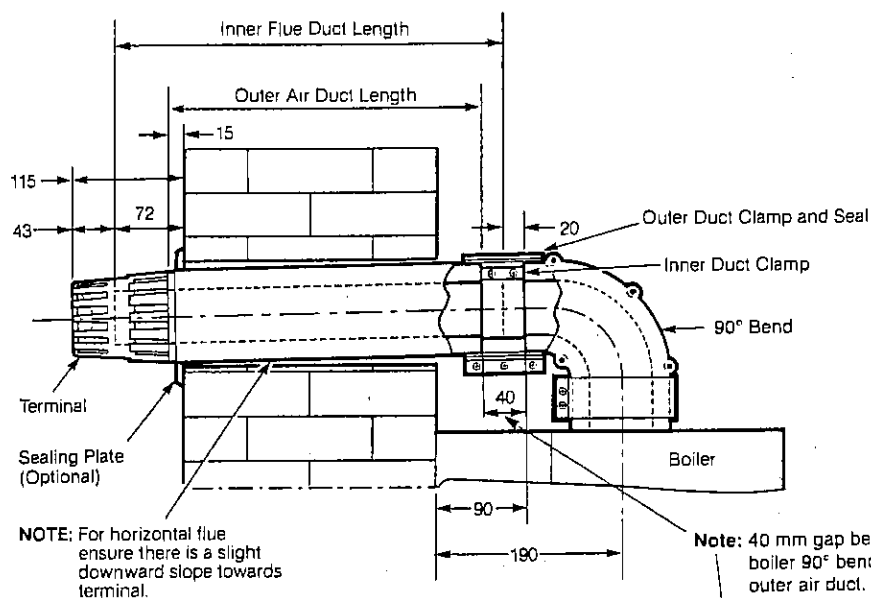

Fig. 11 - Rear flue
4.6 FIT THE FLUE - Figs. 11, 12
1. Position the seal and clamp (two screws), supplied with the bend, over the boiler flue adaptor. Fit the bend and rotate to the correct position, then secure in position. See Fig 11.
5. Mark the outer air duct to match the length given above, measure from the end of the tube as shown in Figs. 11 and 12.
11. Place the inner (no seal) duct clamp in position over the bend outlet as shown in Figs. 11 and 12, and position the outer duct seal over the bend.
4.7 FIT A FLUE EXTENSION - Figs. 11, 12
5. When measuring the outer duct, measure from the end of the tube as shown in Figs. 11 and 12.